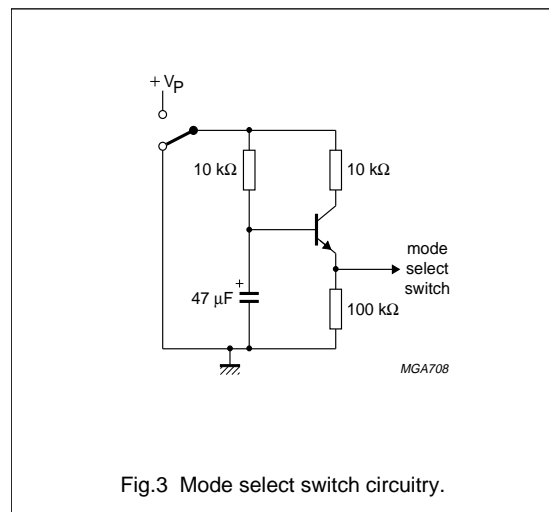

Fig.3 Mode select switch circuitry.
- External timing circuit (see Fig.3).
The circuit in Fig.3 slowly ramps up the voltage at the mode select switch pin when switching on and results in fast muting when switching off.